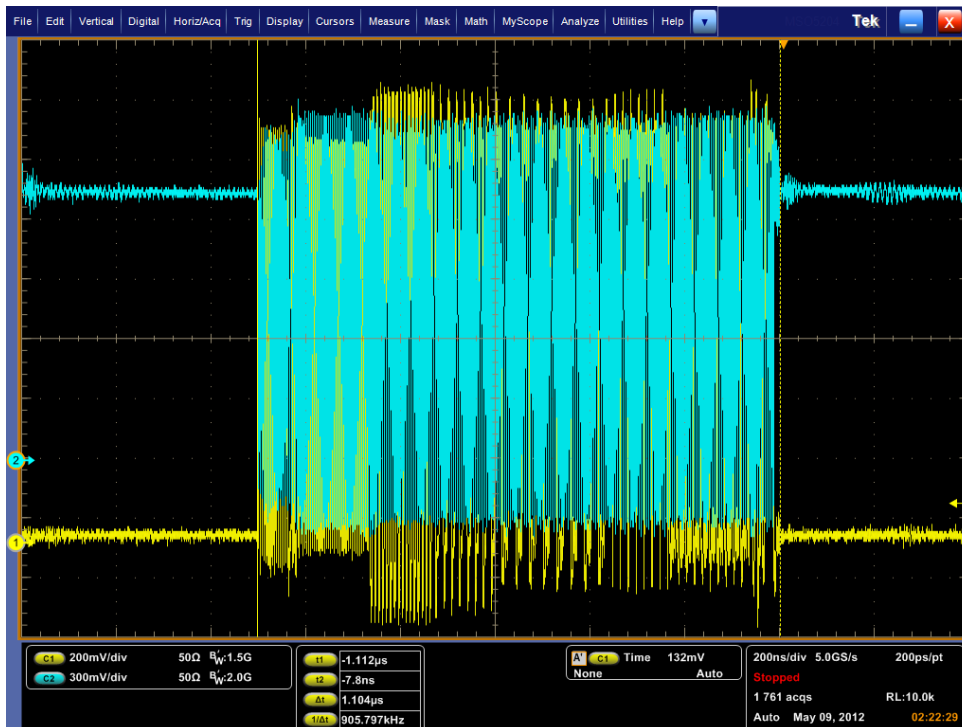

Figure 4 Signal Quality
- 5. After the setup has been completed, click on the single button in DPOJET. The waveform captured will be as shown in Figure 4.